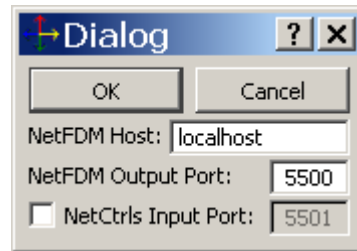

Figure 35 - Flight Gear Communications Dialog
2. If FlightGear, Simulator, and PCC are installed on the same computer, leave the default in the **Host** field as “localhost” (**Figure 35**). If FlightGear is installed on a separate computer, enter the computer’s IP address or the name of the FlightGear computer in the **Host** field. Click **OK**.